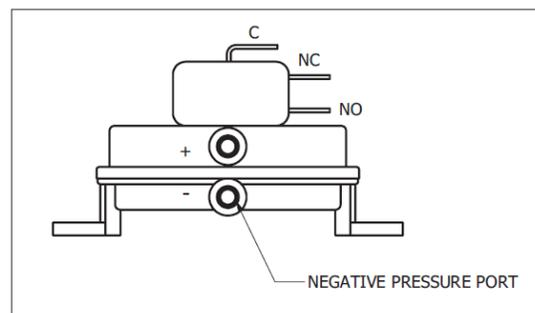

FIGURE 44
2. The ADC100 control may be mounted directly to a wall. To mount, remove the cover and locate the (4) mounting holes. Using the hole-pattern shown below, mount the control using #6 screws.
4. A Proven Draft Switch (PDS) must be used with the ADC100 control as a system safety device. The PDS monitors the pressure inside the stack and signals the control to shut down the appliance if insufficient draft exists. A stack probe senses the pressure read by the PDS and is connected via silicone tubing. The silicone tubing supplied with the PDS should be connected to the NEGATIVE (-) port of the PDS. This is the bottom port on the switch. See **Figure 44**. The standard tube length is 6 feet. The distance can be extended up to 25 feet by using 1/4" rigid plastic or copper tubing as temperature allows (not supplied).